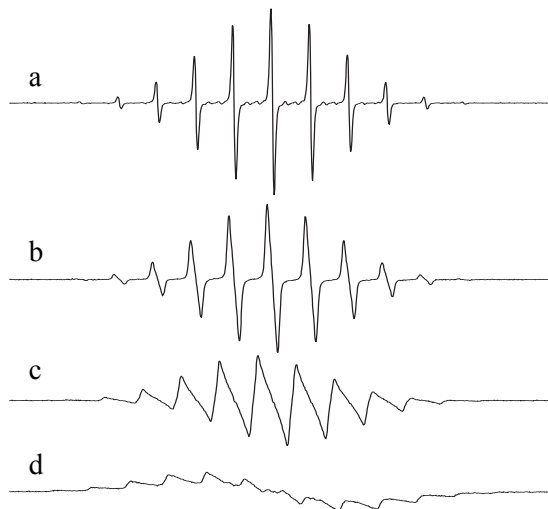

Figure 8-5 Effect of using progressively higher field modulation amplitudes (a-d) on an EPR spectrum.
- **Optimize the field modulation amplitude.** Excessive field modulation broadens the EPR lines and does not contribute to a more intense signal. Figure 8-5 shows the results of excessive field modulation. You can see how some of the smaller lines in spectrum a were lost in spectrum b even after increasing the modulation only slightly. A good “rule of thumb” is to use a field modulation amplitude that is approximately one quarter the width of the narrowest EPR line you are trying to resolve. Keep in mind that there is always a compromise that must be made between resolving narrow lines and increasing your signal to noise ratio. If you have a very weak signal, you may need to sacrifice resolution (*i.e.*, by using a higher field modulation) in order to even detect the signal. However, if you have a high signal to noise ratio, you may choose to use a much lower field modulation amplitude in order to maximize resolution.
- **Modulation amplitude set too high.** Large field modulation amplitudes will broaden your resonance line, particularly as the modulation amplitude approaches the linewidth. Reduce the modulation amplitude to ensure that the spectrum is independent of the modulation amplitude. (See Figure 8-5.)
- **Modulation amplitude too high.** Large field modulation will broaden the resonance line. Lower the modulation amplitude to a region where the lineshape is independent of the modulation amplitude. (See Figure 8-5.)